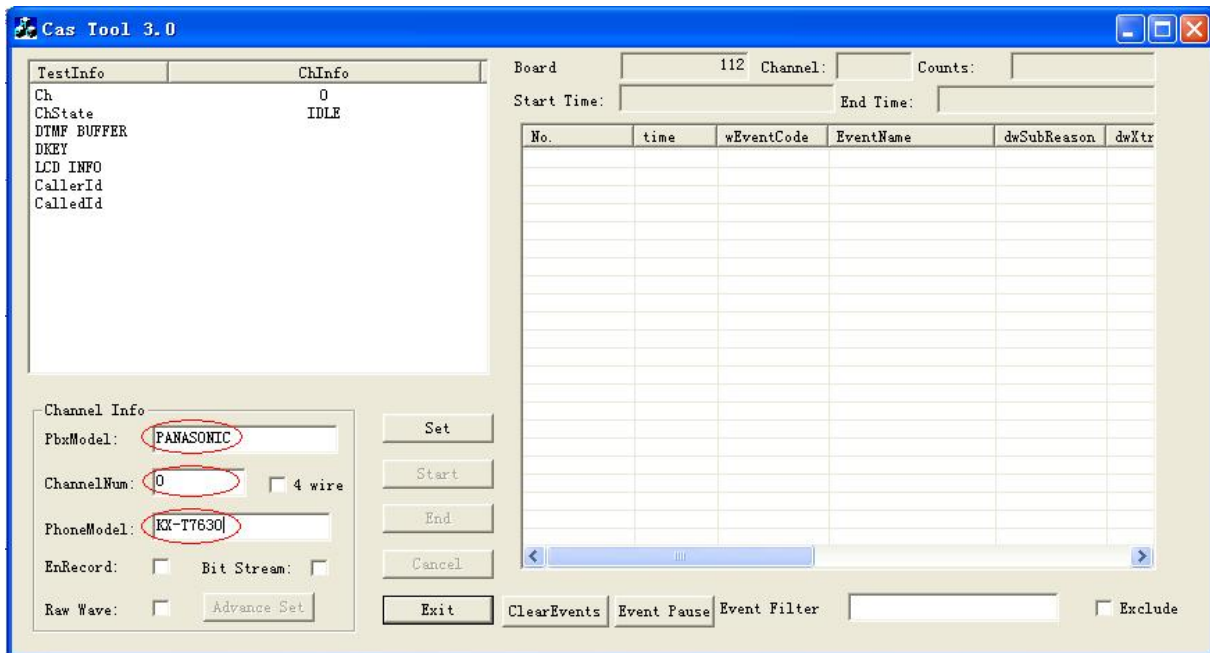

Figure 2-2
Step 2: Fill in some parameters under 'Channel Info' as shown in Figure 2-2.